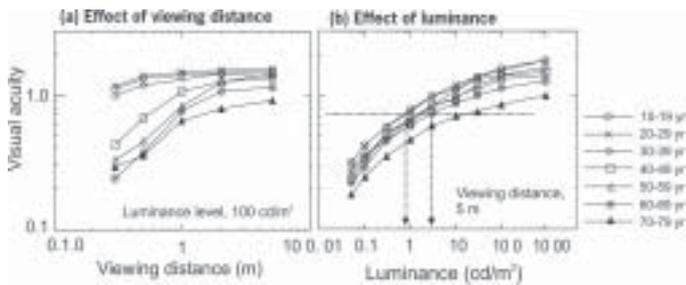

Figure 5. Visual acuity for different age groups as a function of: (a) viewing distance and (b) luminance level.
Figures 5 (a) and 5(b) are the data of visual acuity for a total of 111 people who are classified into 7 decades of age [6]. Figure 5(a) is for the effect of viewing distance
and Figure 5(b) the effect of luminance both having 7 curves that correspond to each of the 7 age groups. The effect of viewing distance (Figure 5(a)) shows a clear reduction of visual acuity at near distance (less than about 1m) for people older than 40 years old while the acuity remains rather constant for younger people. The font should be larger, therefore, for older persons when they see letters at near distance. As for the effect of luminance, all the 7 curves in Figure 5(b) show the same trend along with the luminance and no aging effect in the effect of luminance though the level of acuity is different among age groups.
It is possible from the Figure 5(b) to estimate how much light is required for older people to keep the visual acuity equivalent to younger people. This estimation can be done by drawing a horizontal line of constant visual acuity and find a cross point to each of the acuity vs luminance curves of younger or older people. As already shown in Figure 5(b), given a level of about 0.8 of visual acuity, the luminance level to ensure this acuity is 0.8 cd/m² for younger people (in their age of 20s) and about 3 cd/m² for older people (in their age of 60s). This means that about 4 times as much light is required for older people to keep the same acuity level as that of younger people.
This ratio is different among luminance levels, i.e., photopic or mesopic. Rough estimation, though not shown in Figure 5, tells us that at photopic vision above a few cd/m², about 10 times of luminance is required for people in their 60s than that for people in their 20s. But at very low mesopic vision the ratio becomes about twice. Although the ratio is different among levels, it can be generally said that more light is needed for older people at any level to maintain the visual acuity equivalent to younger people.
For example, given a person of 70 years old who reads Arabic numerals of plain type at 50 cm under the 100 cd/m² level, the following calculation can be applied. The visual acuity of the person at this viewing condition can be obtained as 0.4 by referring the data in Figures 5(a) and 5(b). This gives us a size factor *S* ($=D/V$) of 1.25. From equation (2) and Table 1, the legible font size for this viewing condition is calculated as follows: